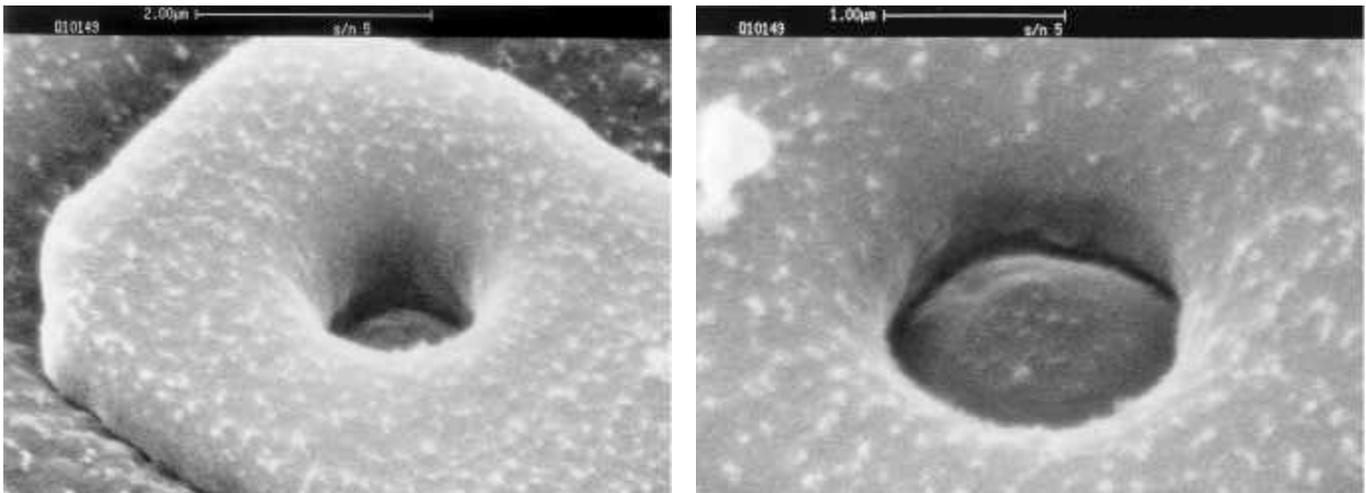
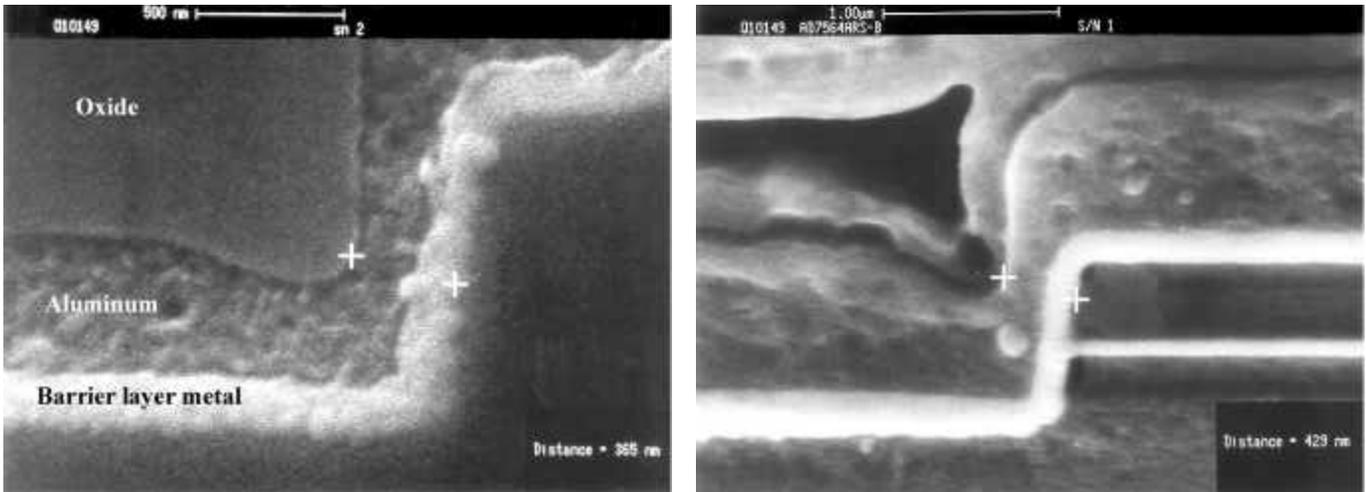

Figure 15. SEM micrographs of SN 5 show suspected rejectable step coverage at vias.
Figure 17. SEM micrographs of cross-sectioned devices SN's 2 and 1 step coverage thinning.
17. SEM examination revealed what appeared to be rejectable metallization step coverage at contact vias (see Figures 15 and 16). Cross-section examination of SN’s 1 and 2 confirmed these suspicions and revealed a typical thinning at the steps of approximately 60% from the nominal metallization thickness (see Figure 17).